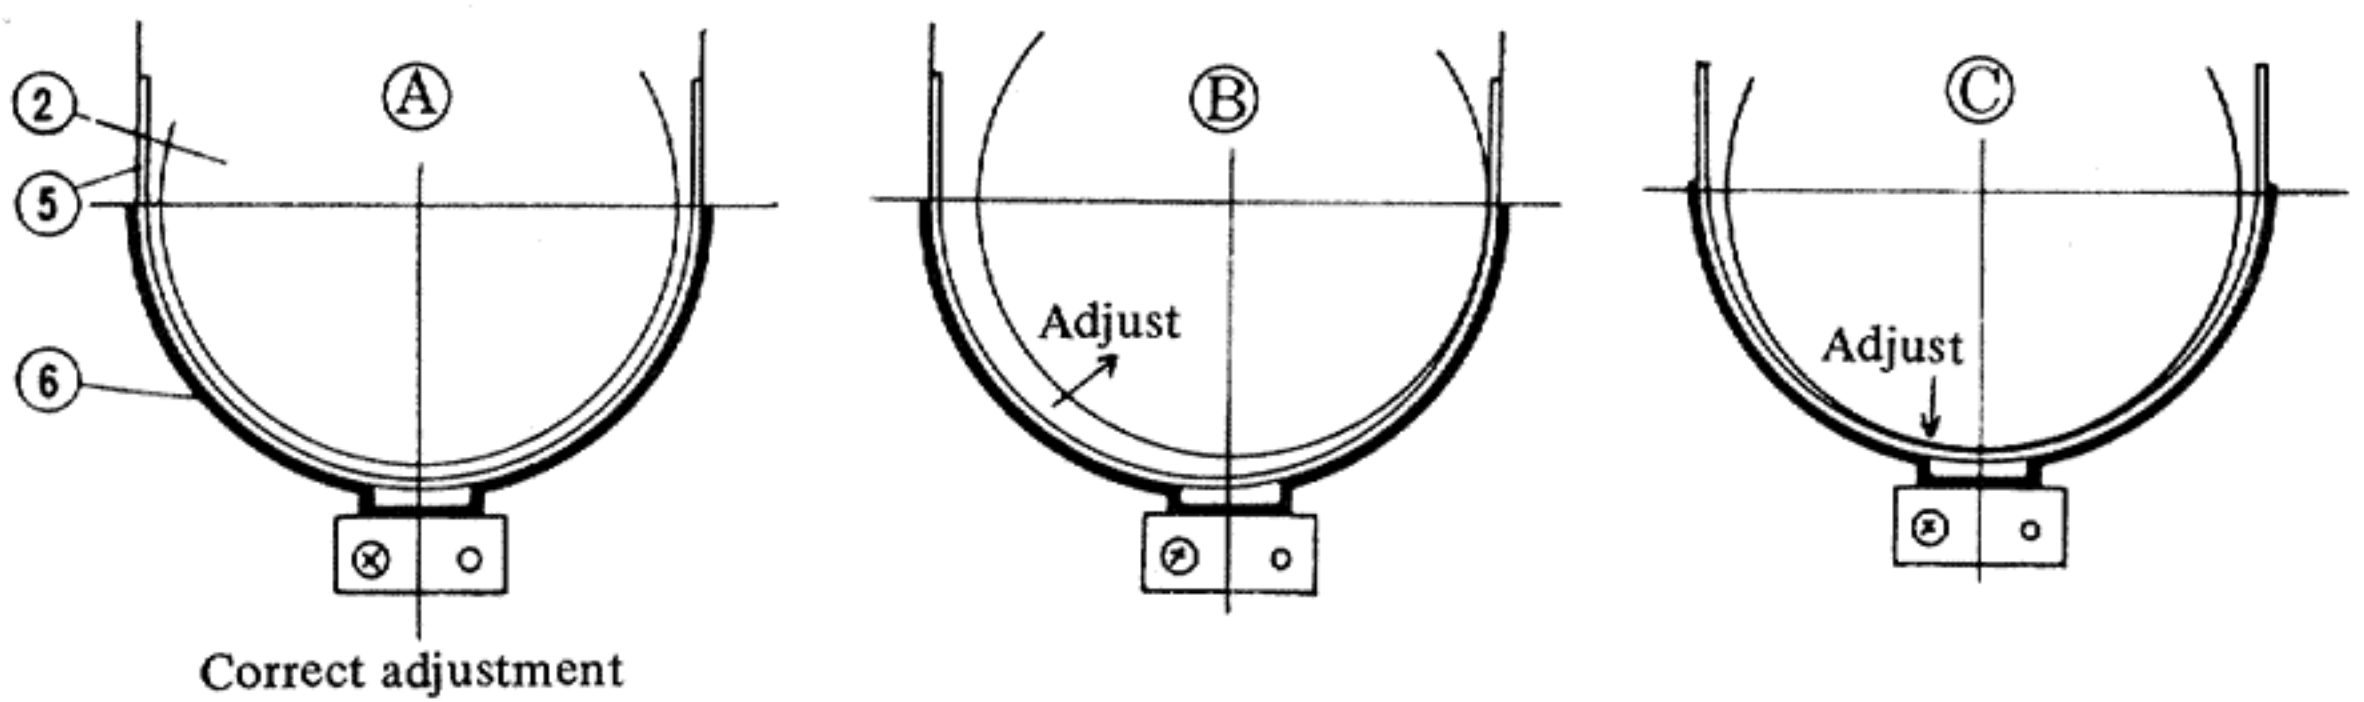

Fig. 24
⑥ so the space between the brake liner ⑤ and brake drum ② are even, as shown in (A) of Fig. 24.